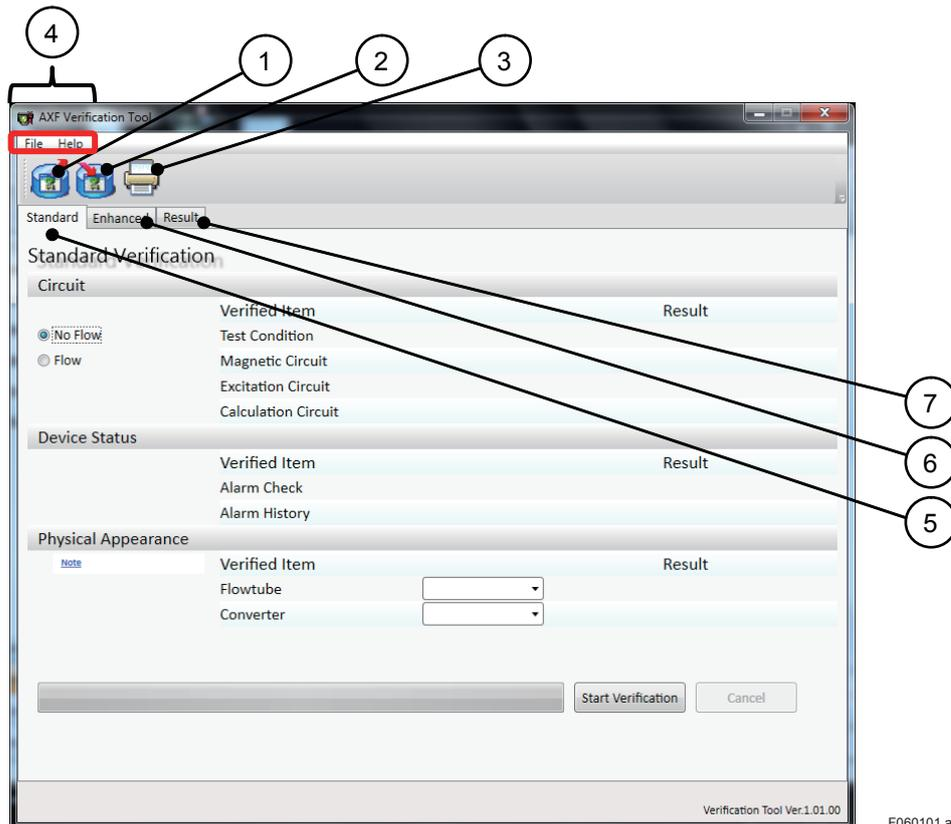

Figure 6.1.1 Main Screen
Enter each field and click “Next (8)”. **Figure 6.1.1** is displayed automatically.